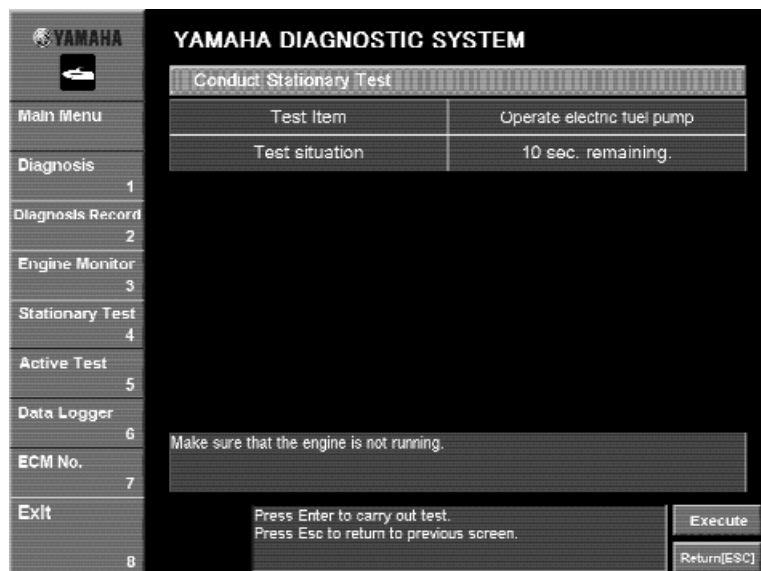

Fig. 53
2. Click the **Execute** button or press the Enter key on your keyboard (Fig. 53).